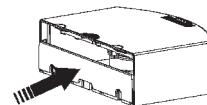

Figure 1
1. First, open the dust-proof clapboard and dump the dust and debris collected. (See Figure 1)